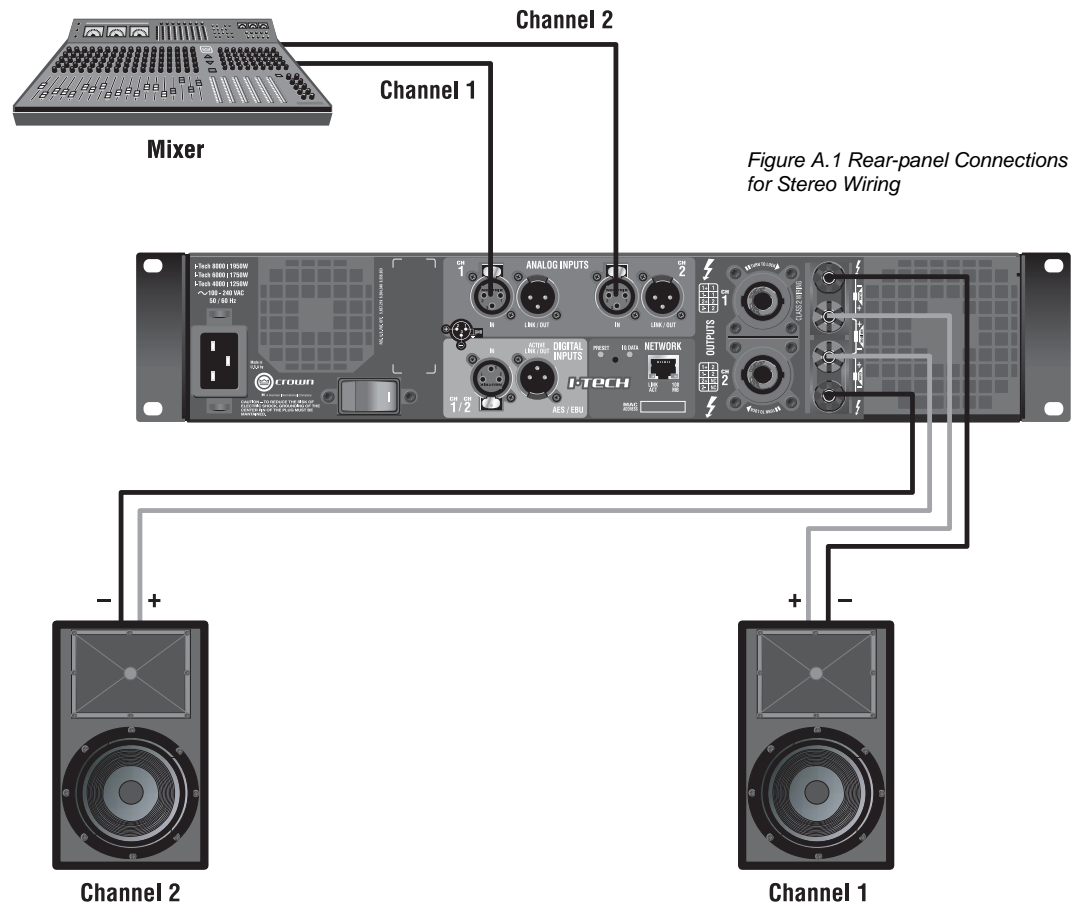
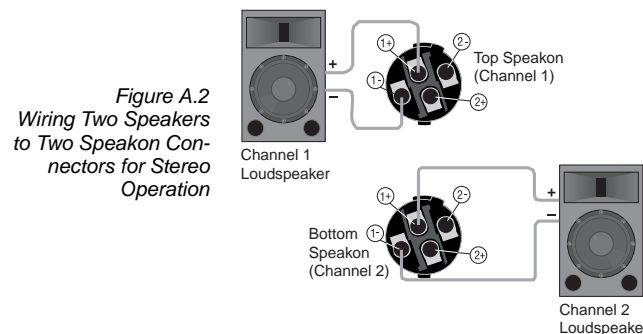

Figure A.1 Rear-panel Connections for Stereo Wiring
Figure A.2 Wiring Two Speakers to Two Speakon Connectors for Stereo Operation
2. See Figure A.1. Connect two cables from your mixer output to the amplifier's XLR input connectors.
3. Using Class 2 wiring, connect speaker cables either to the amplifier's Speakon® connectors (as in Figure A.2) or to the binding posts (as in Figure A.1.)